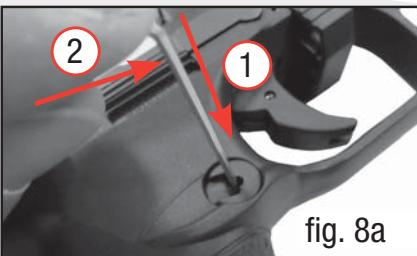

fig. 8a
- Using moderate force, lever the allen wrench in the direction of the muzzle until the counter support is loosened (do not press the magazine release at the same time) (Bild 8a).